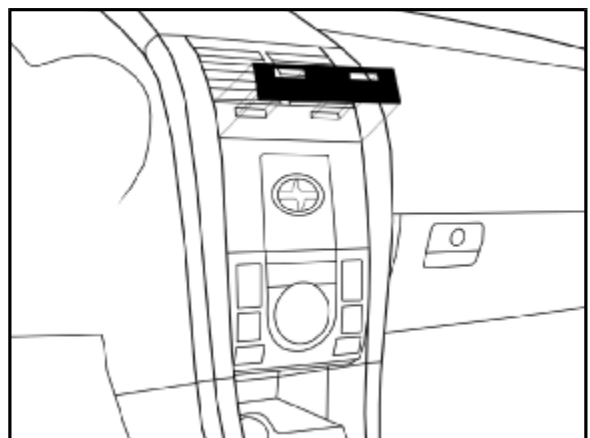

Fig. H1
- ⚠ B. Align part uniformly to edge of factory components. Edge of appliqué should be flush to edge of factory component, ±1.0mm. (Fig. H1).